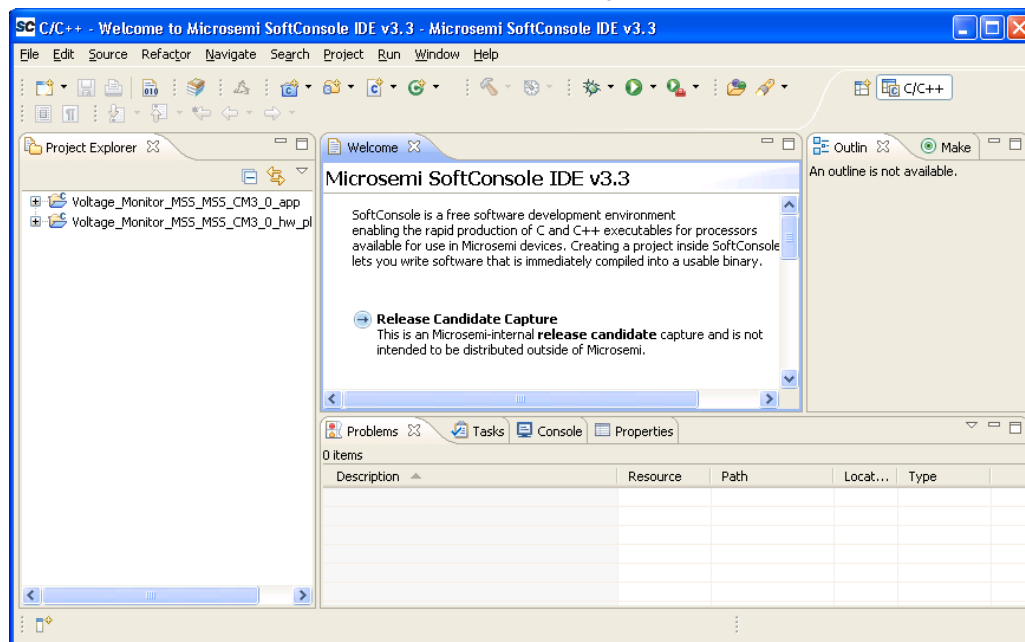

Figure 28 · SoftConsole Workspace
2. The SoftConsole perspective looks similar to Figure 28 · :